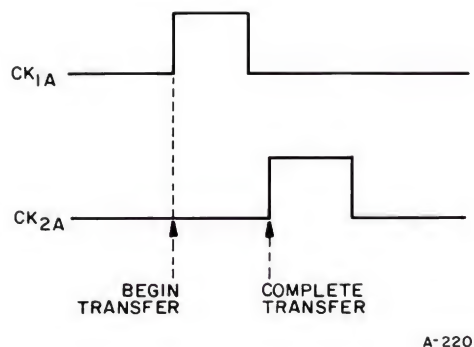

Figure 4
The CCD register transports the charge packets from cell to cell. For this purpose, two transport clock signals, CK_{1A} and CK_{2A} , are required. In order to transfer all charge packets forward by one cell, it is necessary to raise and lower CK_{1A} and CK_{2A} in turn. See Figure 4. The simplest possible circuit has $CK_{2A} = CK_{1A}$. Note that while the sample clock requires a fast falling edge, all four edges of the transport clocks are less critical.
3. The clocks CK_{1A} and CK_{2A} must make as many transitions as CK_{SA} and must spend >10 nsec in opposite states. See Figure 4. For the purpose of convenience, $CK_{1A} = CK_{SA}$, $CK_{2A} = \overline{CK_{SA}}$ may be implemented.